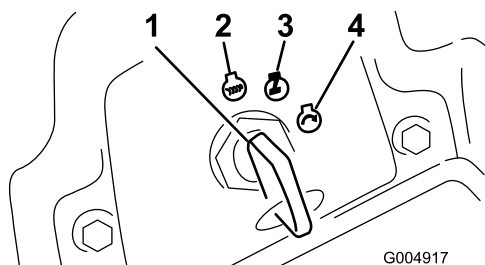

Figure 13
6. Turn the ignition key clockwise to the Run position (Figure 13).
4. Turn the ignition key to the Off position (Figure 13). Wait for all moving parts to stop before leaving the operating position.